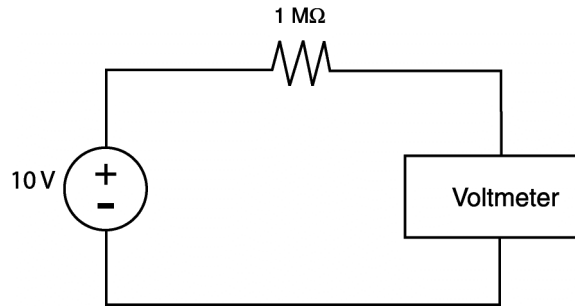

Figure 2: Circuit for measuring the resistance of the voltmeter.
To determine the internal resistance of the voltmeter, set up the circuit shown in figure 2. The voltmeter reads the voltage across itself, which includes its internal resistance. Since the circuit has only a single branch, the current flowing through the resistor also flows through the voltmeter. The current is given by the equation:
4. Assemble the circuit in Figure 2.